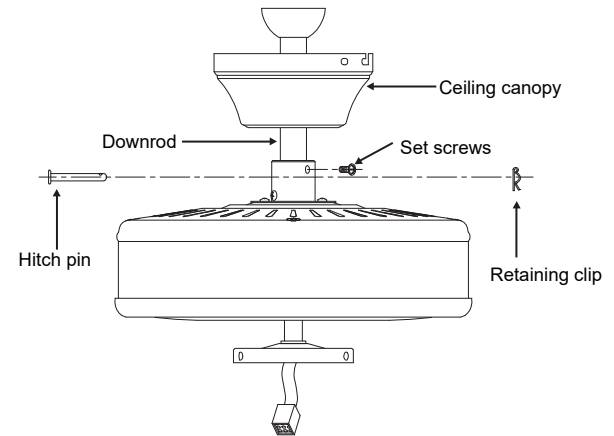

Fig. 6
Step 4. Route wires exiting from the top of the fan motor through the coupling cover, canopy and then through the ball/downrod (**Fig. 6**)
Step 5. Align the holes at the bottom of the downrod with the holes in the collar on top of the motor housing (**Fig. 6**). Carefully insert the hitch pin through the holes in the collar and downrod. Be careful not to jam the pin against the wiring inside the downrod. Insert the locking pin through the hole near the end of the hitch pin until it snaps into its locked position, as noted in the circle inset of **Fig. 6**.
Step 6. Tighten two set screws on top of the fan motor firmly (**Fig. 6**).